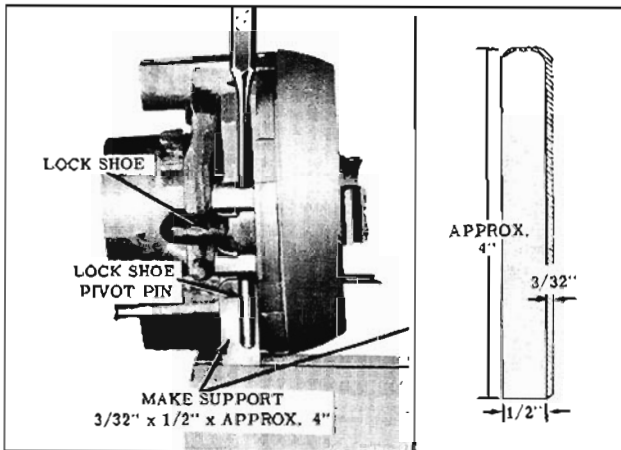

Fig. 8-100 Removing Lock Shoe Pivot Pins
1. Back up the lock shoe pivot pin boss in the actuator housing, with a suitable tool, in-board of the pivot pins. (Fig. 8-100)